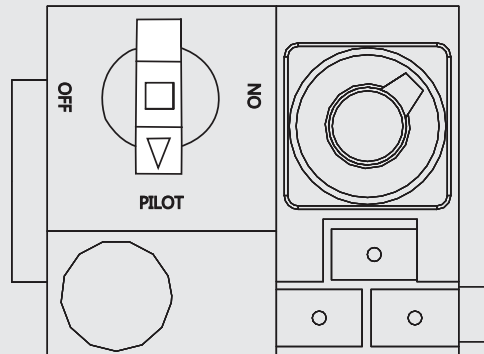

Figure 8
2. Press and turn the gas control knob to the "PILOT" position. **(Figure 8)**
3. Press and hold the gas control knob while manually lighting the pilot. **(Figure 8)**